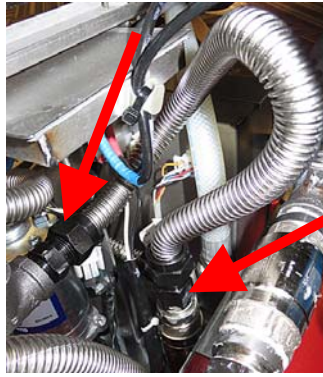

Figure 27
25. Attach flexline 8101057 to flexline adaptor in Figure 26 and the other end to the assembly below it (see Figure 27).